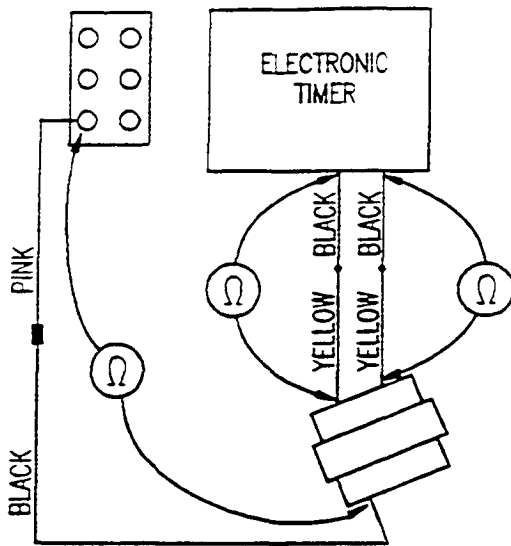

Figure 6-36. Electronic Timer Module Lower Compartment
2. If the timer display is blank, the timer is either not receiving power from the 24 VAC transformer, or the timer is faulty. The timer may not be receiving 24 VAC power from the transformer due to faulty wiring. Refer to Figures 6-36 and 6-37.